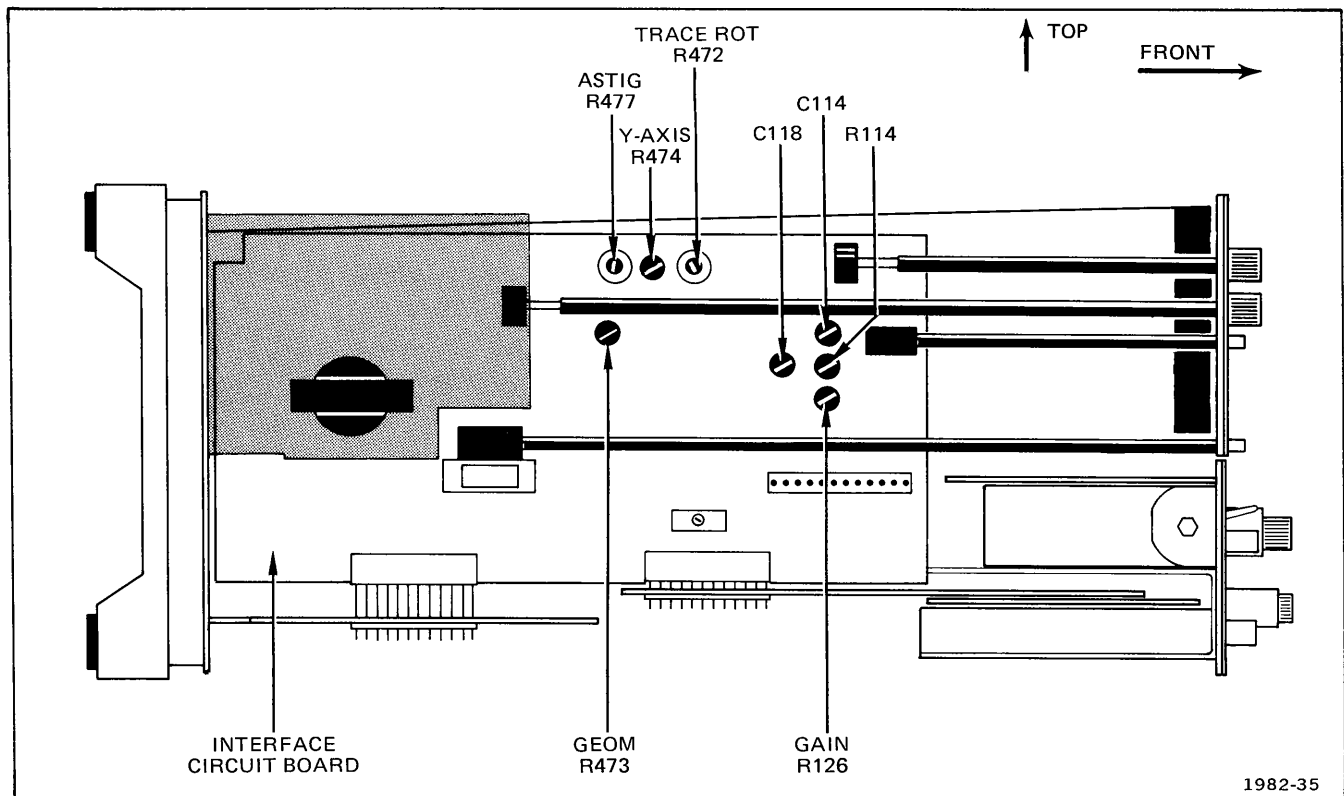
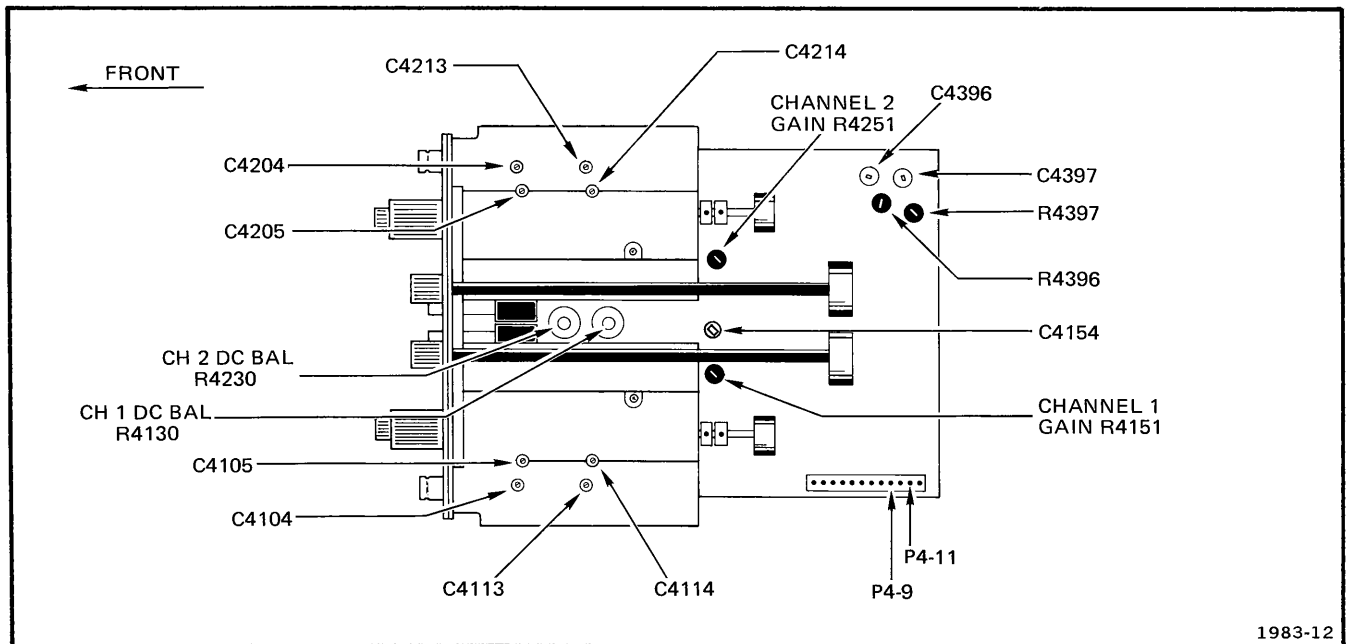

Fig. 4-2. Interface board adjustment locations (on left side of crt).
Fig. 4-3. Vertical Amplifier adjustment locations (bottom view of instrument).
- b. ADJUST—Trace Rot, R472 (see Fig. 4-2), to align trace with center horizontal graticule line.
- e. ADJUST—Y-axis, R474, (see Fig. 4-2) to align center marker with center vertical graticule line.
- b. ADJUST—Geom, R473 (see Fig. 4-2) for best alignment of markers with the vertical graticule lines, i.e.: minimum bowing of markers.
a. ADJUST—CH 1 DC BAL, R4130 (see Fig. 4-3), for no trace shift while switching CH 1 VOLTS/DIV control between 2 mV and 10 mV.
c. ADJUST—CH 2 DC BAL, R4232 (see Fig. 4-3), for no trace shift while switching CH 2 VOLTS/DIV control between 2 mV and 10 V.
b. Set Gain, R126 (see Fig. 4-2), to physical midrange.
c. Connect digital voltmeter between P4-9 and P4-11 (see Fig. 4-3). Select range on meter for at least 500 mV reading.
f. Adjust Gain, R126 (see Fig. 4-2), so trace aligns with third graticule line above center horizontal graticule line.
c. ADJUST—Gain, R4151 (see Fig. 4-3), for a 4-division display.
e. ADJUST—Gain, R4351 (see Fig. 4-3), for 4-division display.
e. ADJUST—C4397, R4397, C4396, R4396 (see Fig. 4-3), C114, R114, C118 (see Fig. 4-2), for best front corner of waveform using a low-capacitance alignment tool.
h. ADJUST—C4154 (see Fig. 4-3), for best square front corner of waveform using low-capacitance alignment tool.
c. ADJUST—C4114 (see Fig. 4-3) for best square front corner (see Fig. 4-4 for example).
e. ADJUST—C4105 (see Fig. 4-3) for best square front corner (see Fig. 4-4 for example). Disconnect test equipment.
c. ADJUST—C4214 (see Fig. 4-3) for best square front corner (see Fig. 4-4 for example).
e. ADJUST—C4205 (see Fig. 4-3) for best square front corner (see Fig. 4-4 for example). Disconnect test equipment.